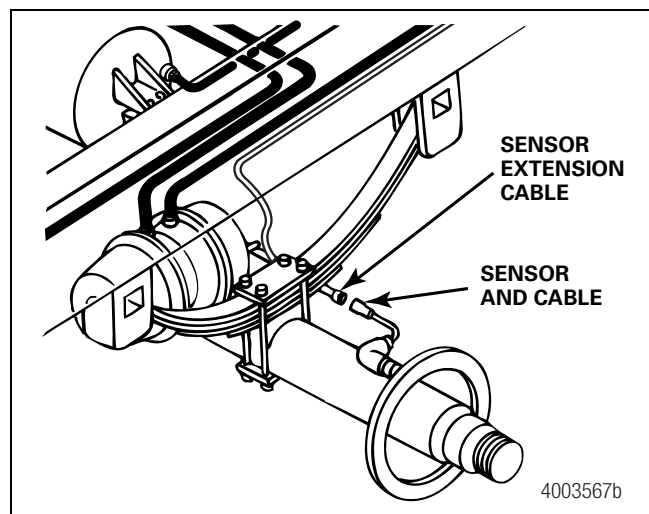

Figure 6
2. Connect the sensors and cables on the prepped axles to the sensor extension cables. Figure 6.
3. Route the sensor cable along the back side of the trailer axle to the ECU/dual modulator valve assembly. Route the cable with the brake hose. Figure 6.